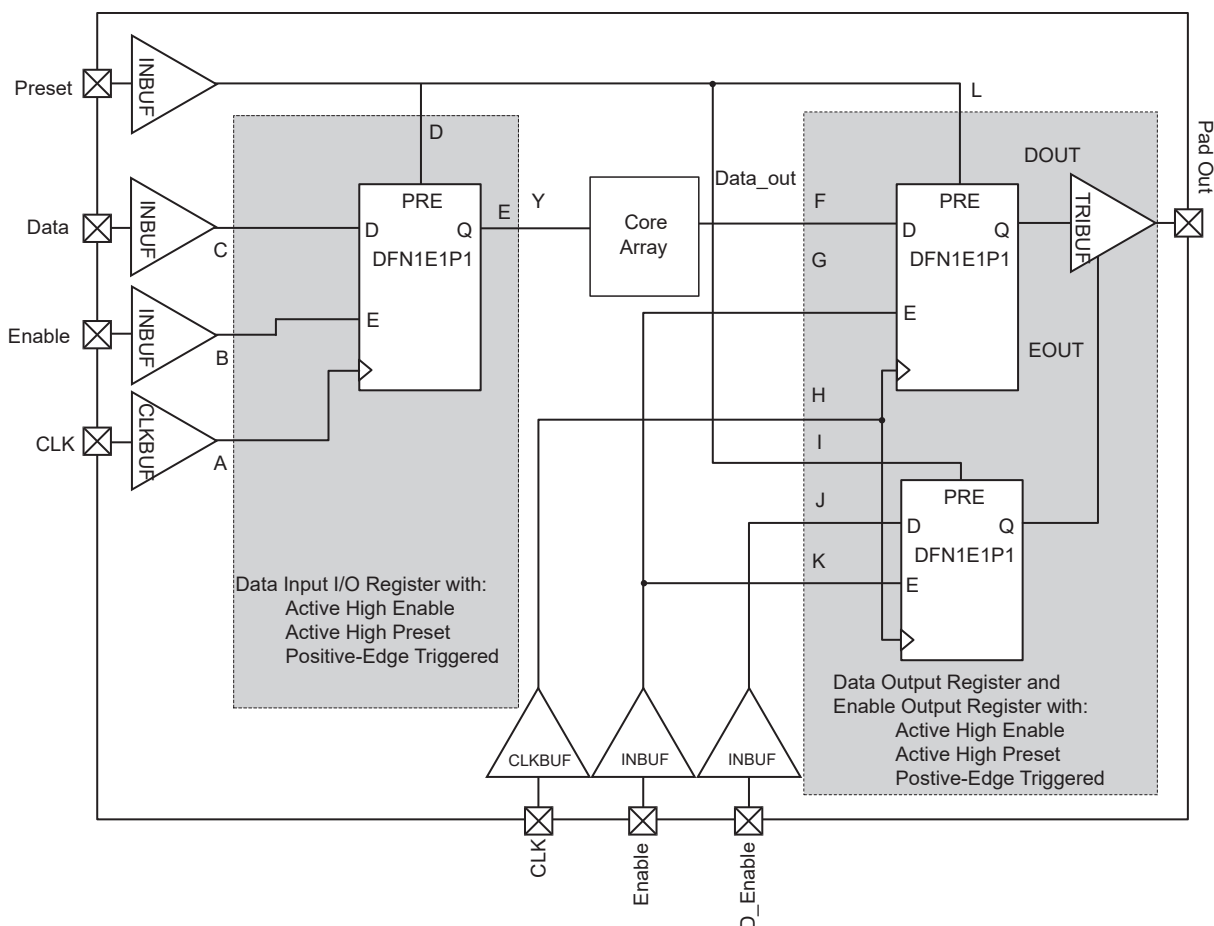

Figure 2-14 • Timing Model of Registered I/O Buffers with Synchronous Enable and Asynchronous Preset
* See Figure 2-14 on page 2-44 for more information.